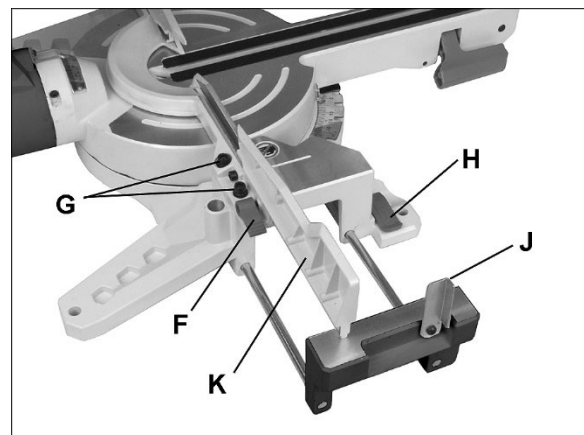

Figure 8-2
Pull up lock handle (H, Figure 8-2) and slide table extension outward, as shown. Push down lock handle to secure position.
1. Raise lock handle (F, Figure 8-2) to unlock fence extension.
2. Slide fence extension (K) outward to accommodate desired bevel angle, or slide it completely off.
3. Push down lock handle (F) to tighten fence extension in position.
2. Loosen four fence locking screws (G, Figure 8-2). Note: Two locking screws to each fence.
5. Adjust fence square to blade and tighten the four fence locking screws (G, Figure 8-2).